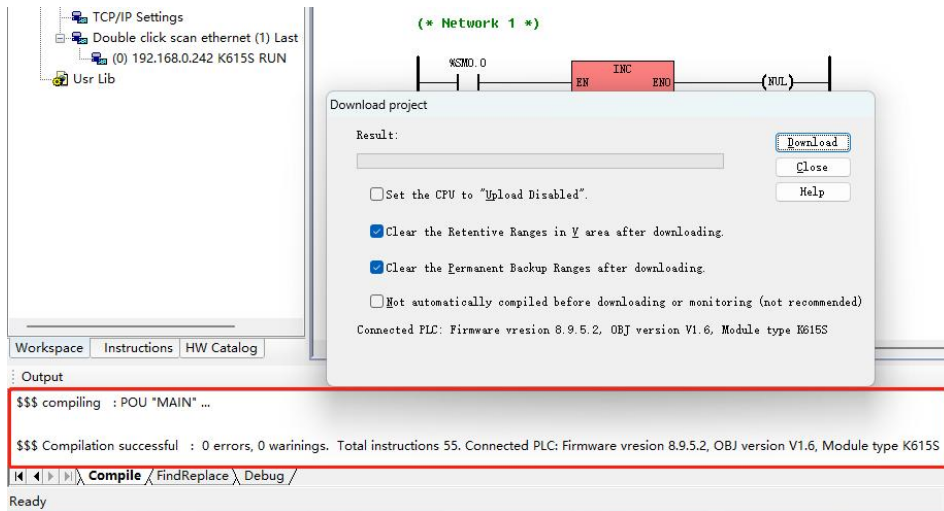

Figure 6.6-13 Auto-compiled when opened
- Procedure upload operation process: after completing the communication connection between PC and PLC, download [PLC] [from the PLC on the menu bar...]. Or open the download window through the shortcut key [F8], the software will automatically compile the current project at the trigger, and the relevant information will be displayed in the [information output window], as shown in Figure 6.6-13 below. If the compilation passes, click [Start Download (D)], then the download process can start. After the successful download is completed, it will be prompted in the [information output window], and the software version and model of the current device will be displayed.